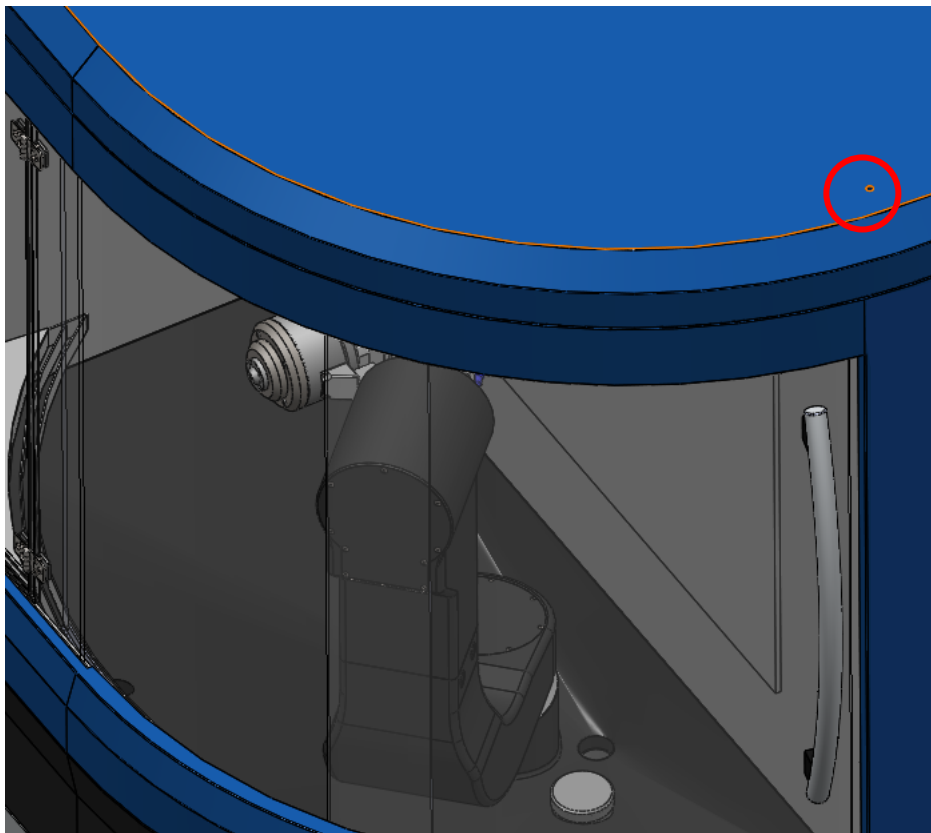

Figure 7 - Manual Access Points to Door Interlocks
- ❖ If the doors must be opened prior to electrical connection, there is a manual override for the interlock located on the machine roof (Figure 7).